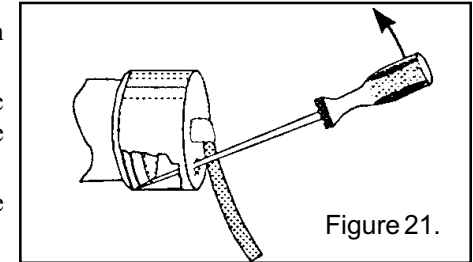

Figure 21.
3. Remove the snap-on cord cap by inserting a slotted screwdriver into the access hole and prying upwards, as illustrated in Figure 21, in the relamping instructions.
4. Remove the snap-on cord cap by inserting a slotted screw driver into the access hole, as illustrated in Figure 21, and prying upwards.